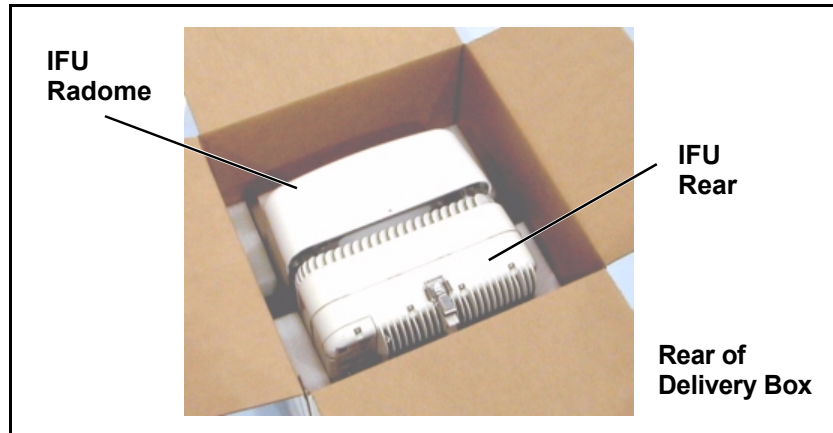

**Figure 5-4.** IFU Preparation
- 2 Place protective covers over the optical fiber and power connectors and position the alarm cable as shown in Figure 5-4.